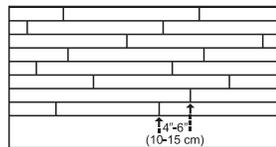

Figure 17
- Check for a tight fit between all edges and ends of each plank. End-joints of adjacent rows should be staggered 4"-6" (10-15 cm) when possible, to ensure a more favorable overall appearance (Figure 17).